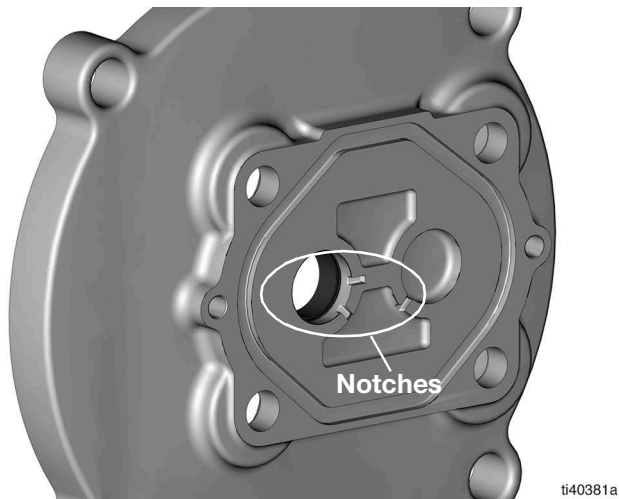
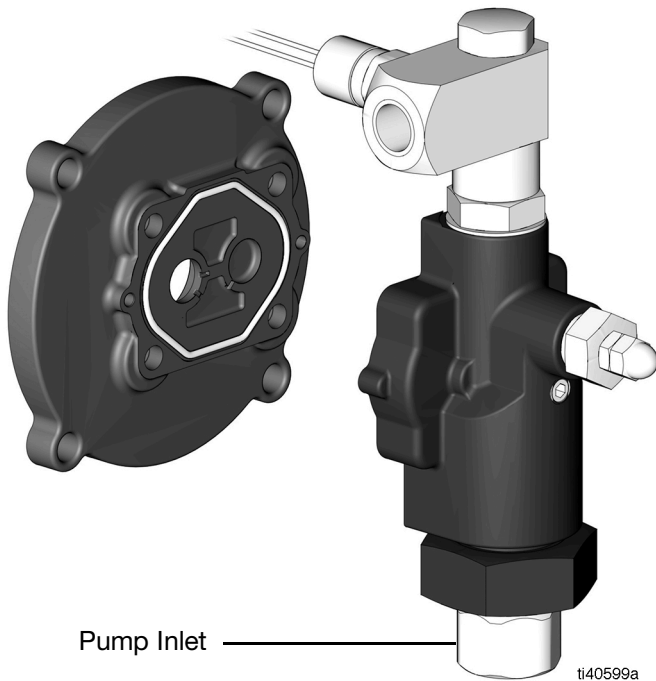

FIG. 29
FIG. 30
3. Position the adapter plate on the pump housing so that the notches point toward the pump inlet (FIG. 29 and FIG. 30).